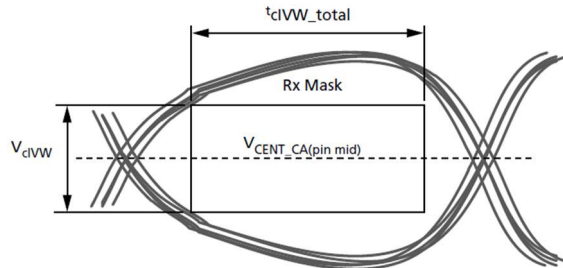

Figure 20 - CA Receiver (Rx) Mask
The command and address (CA) including CS input receiver compliance mask for voltage and timing is shown in Figure 20. All CA, CS signals apply the same compliance mask and operate in single data rate mode.